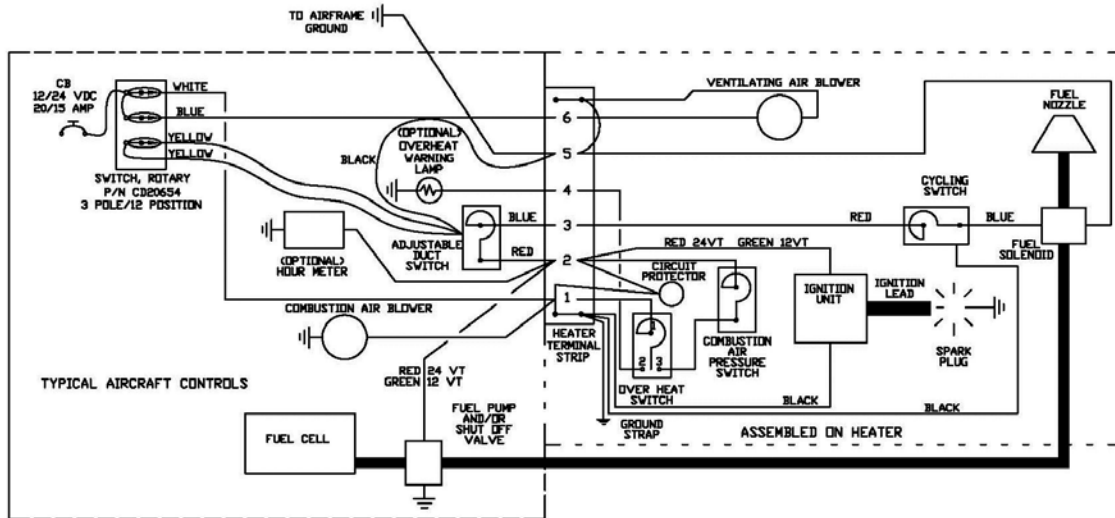

FIGURE 3
- 3.2. Heater Electrical Connection (Figure 3): Remove the old heater control switch. Locate and identify the wire running from the heater circuit breaker to the old heater switch. Marking on this old wire will be H3A. This wire is to be connected to the red wire on the new switch. Route the remaining wires (blue, white, and two yellow) to the new heater. Secure in route in accordance with AC 43.13-1A Chapter 12 for Electrical applications. The blue wire from the new switch is for the vent fan and will be connected to the heater terminal strip number 6. The white wire is connected to the heater terminal strip number 1.